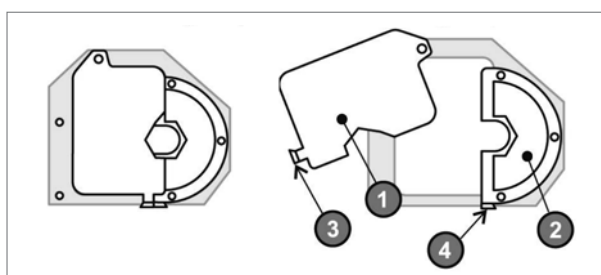

Fig. 7: Bottom gate closed | Bottom gate opened
3. Open the bottom gate(s) (see Fig. 7):
5. Unlatch and open the bottom gate (see Fig. 7).